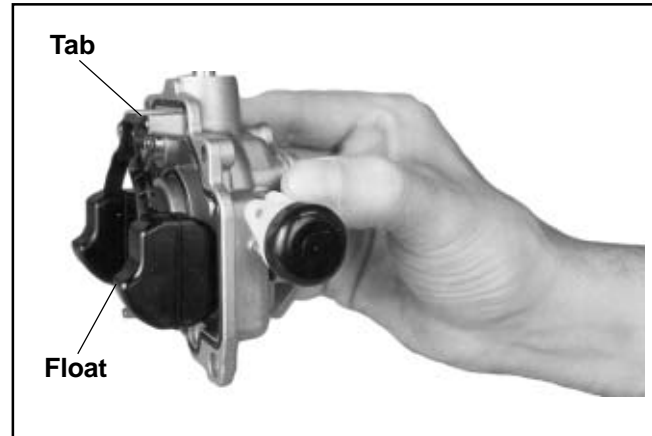

Figure 5-7. Carburetor Float Adjustment.
5. Hold the carburetor upper body so that the float assembly hangs vertically and rests lightly against the fuel inlet needle. The fuel inlet needle should be fully seated, but the needle tip should not be depressed. See Figure 5-7.